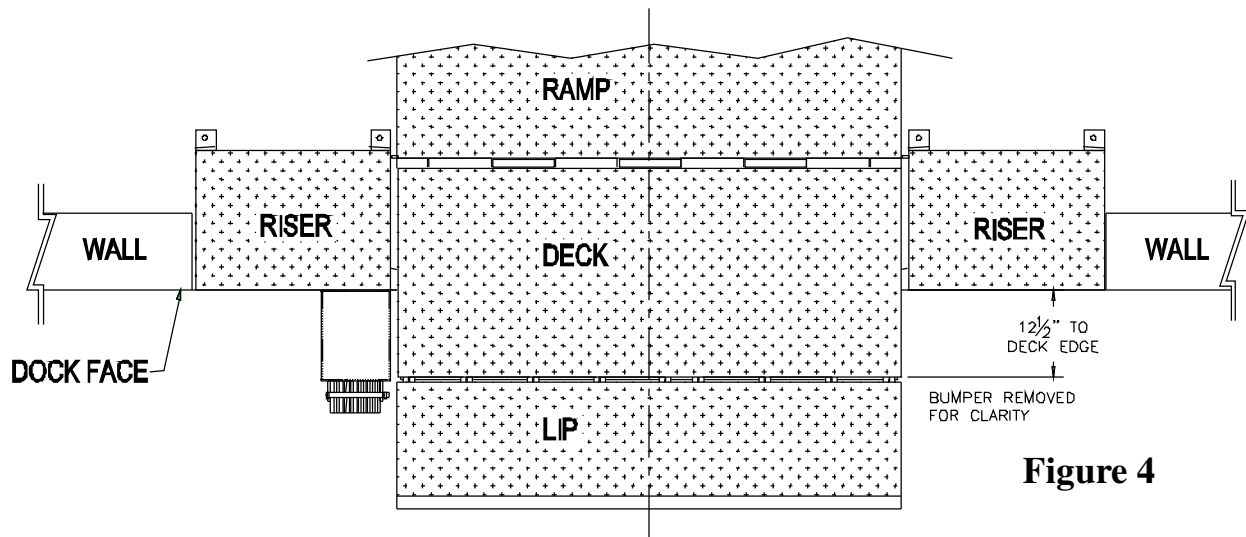

Figure 4
4. **Position the front of the floor risers flush with the dock face** and up against the jamb on each side of the door. See **Figures 4 & 5**.
8. Weld the chain bracket to the curb angle and offset to the left. May be anchored if no curb angle present or curb angle not secure. See **Figures 4 & 5**.
11. Adjust the dock position so that it is centred between the floor risers and the lip is parallel with the dock face. There should be a 1" gap between each floor riser and the deck plate. See **Figures 4 & 5**.
13. Anchor the cylinder bracket to the wall ensuring that it is plumb and level. Pin cylinder to the wall bracket. See **Figures 4 & 5**. **Positioning is critical to ensure proper lip extension, lip return and service range.**